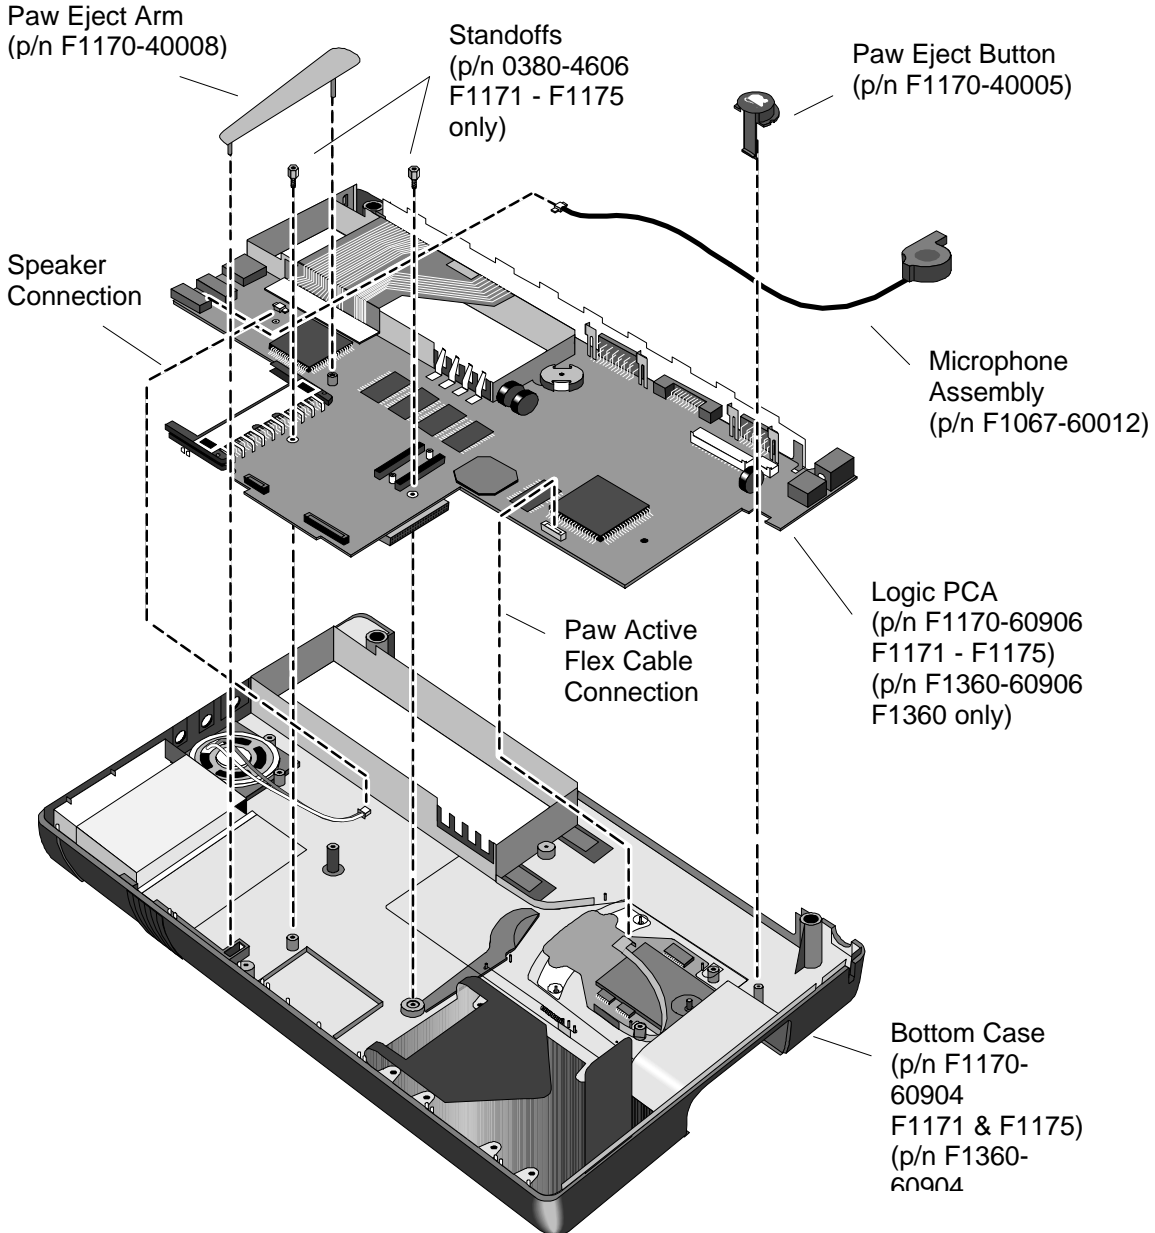

Figure 40 - Logic PCA Removal
2. For convenience, the Microphone Assembly may be removed at this point. See Figure 40.